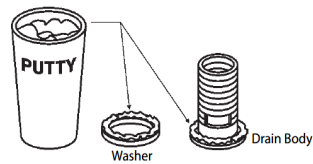

figure 9
6. Apply a bead of clear silicone or plumbers putty around the Drain Body and pass it through the drain hole (figure 9).
7. Apply plumbers putty to the Washer and slide it over the bottom of the Drain Body (figure 9).